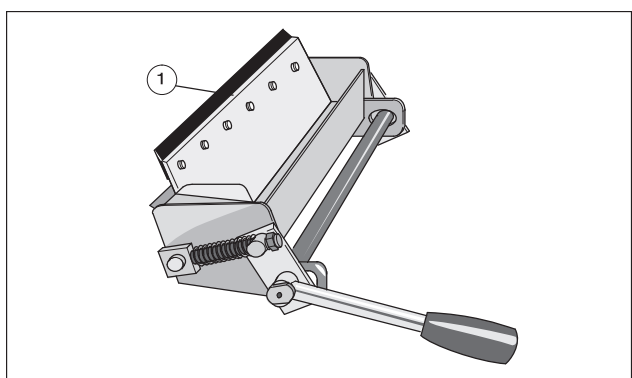

Fig. 68 Inking roller washup device, PU 1
4. **Clean** the plastic blade (Fig. 68/1) and sludge pan with roller wash.